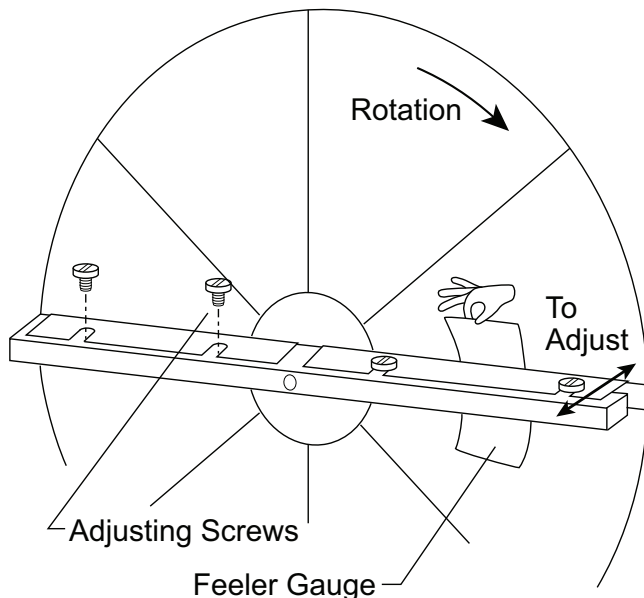

Fig. 46 — Diameter Seal Adjustment
1. Loosen diameter seal adjusting screws and back seals away from the wheel surface. See Fig. 46.